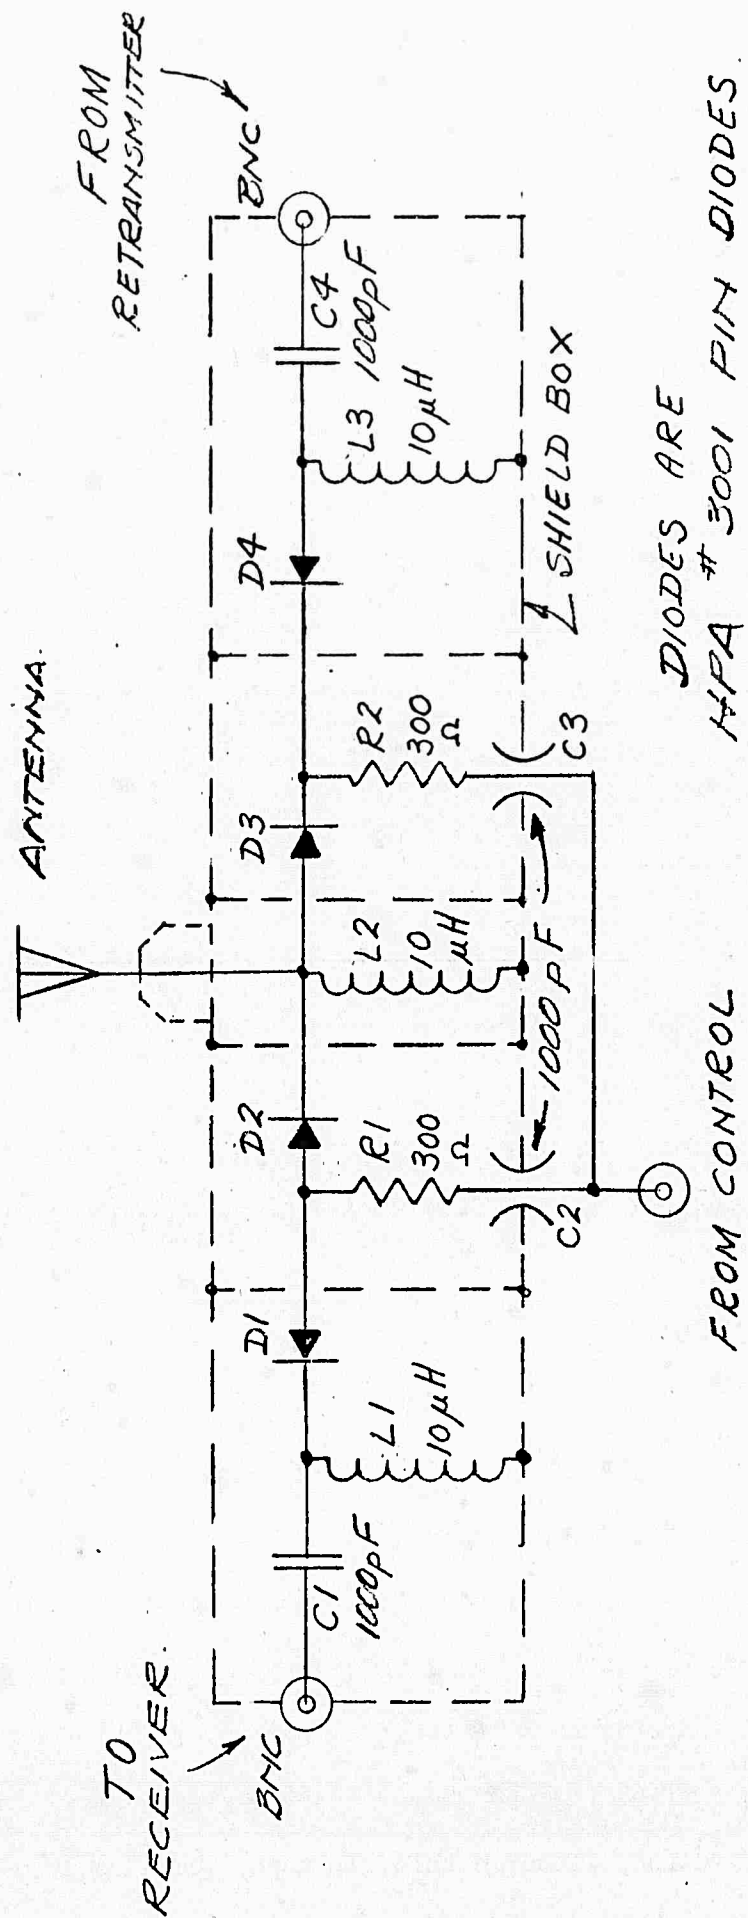

Figure 11. Antenna Switch, Schematic Diagram
3.5 ANTENNA SWITCH (SEE FIG. 11.)